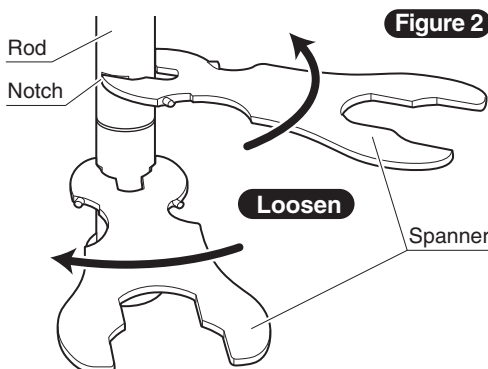

Figure 2
1. Place the accessory spanners into the notches above and below the split in the rod and turn to separate the rod into two parts, the "gauge head" and "display unit." **See Figure 2**